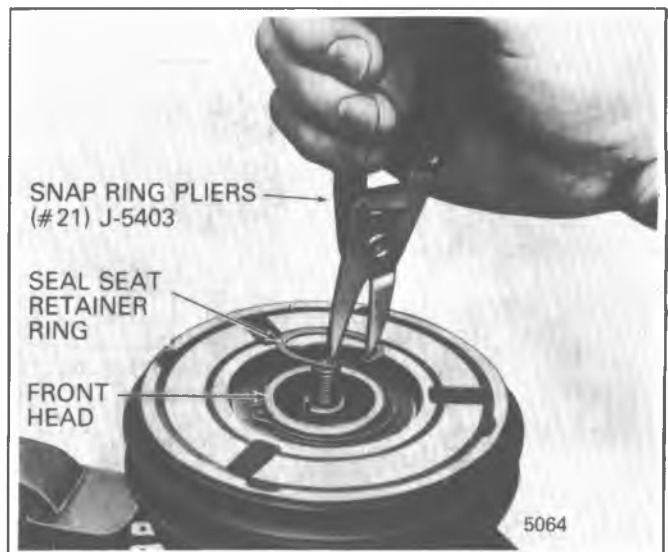

Figure 1D-21 Removing or Installing A-6 Shaft Seal Seat Retaining Ring
5. Place Seal Protector J-22974 over the end of the shaft to prevent chipping the ceramic seat. Fully engage the knurled tangs of Seal Seat Remover-Installer J-23128 into the recessed portion of the seal seat by turning the handle **clockwise**. Remove the Seal Seat from the compressor with a rotary-pulling motion (Figure 1D-22). Discard the Seat.